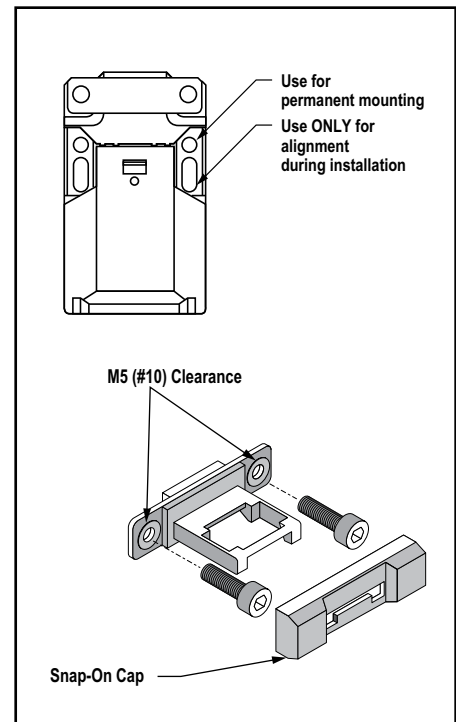

Figure 2. Mounting holes installation
1. Temporarily mount the switch body in place, with its actuator inserted, using the slotted 5 mm holes. See Figure 2.
**NOTE:** The non-adjustable in-line actuator includes floating sleeves in the mounting holes to allow some forgiveness for switch-to-actuator alignment. Take care to not over-tighten the actuator fasteners so as to allow this movement. This actuator also includes a snap-on cap to cover the fasteners (see Figure 2).